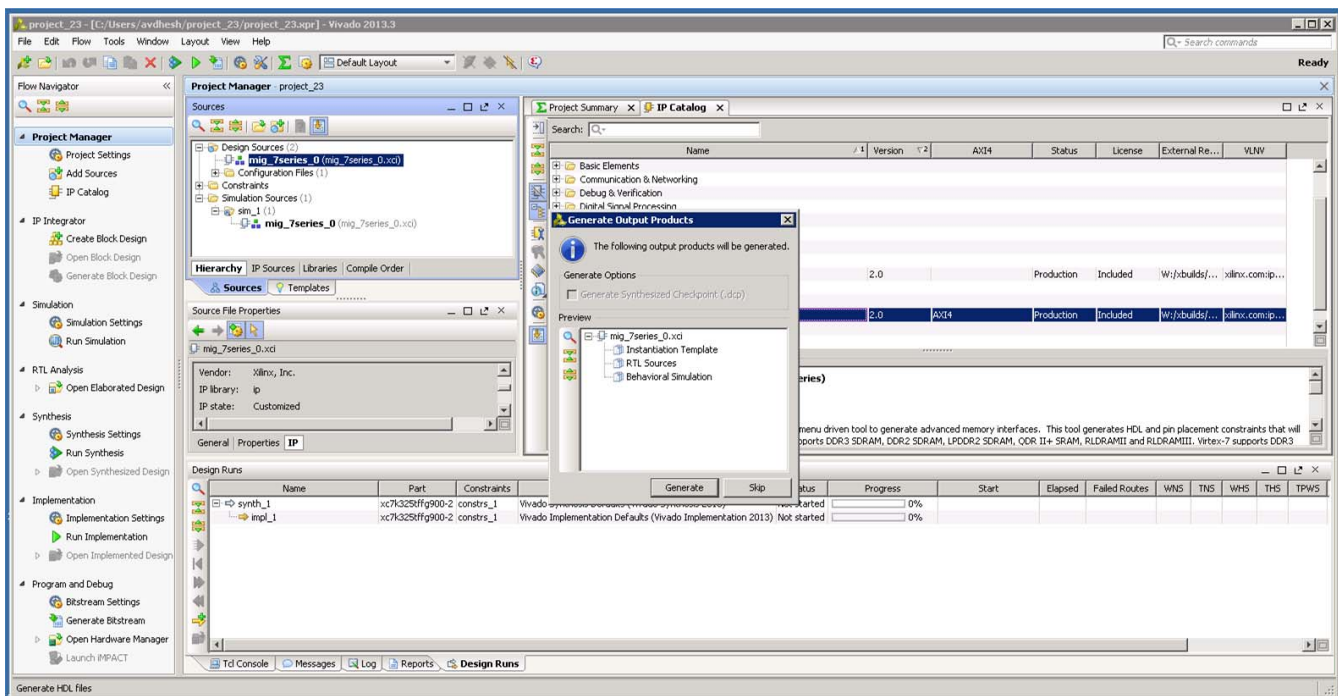

Figure 1-34: Generate Window
- Clicking the **Generate Output Products** option brings up the **Manage Outputs** window (Figure 1-34).